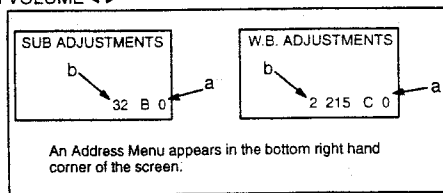

Figure 17. Serviceman Mode Menu Adjustments
**Note:** Only the applicable settings for the Receiver serviced will be available (see a in Figure 17).
1. Press **Channel Up/Down** on the Remote Control to select one of the 8 available Service Adjustments (a in Figure 17).
**Important Note:** Write down the original value set (b in Figure 17) for each address before modifying anything. It is easy to erroneously adjust the wrong item.
2. Press **Volume Up/Down** on the Remote Control to adjust the level of the selected Service Adjustment (b in Figure 17).
1. Press **Channel Up/Down** on the Remote Control to select one of the 12 available Service Adjustments (a in Figure 17).
**Important Note:** Write down the original value set (b in Figure 17) for each address adjustment before modifying anything. It is easy to erroneously adjust the wrong item.
1. Press **Channel Up/Down** on the Remote Control to select one of the 12 available Options Adjustments (a in Figure 17).
1. Press **Channel Up/Down** on the Remote Control to select one of the 5 available MTS Adjustments (a in Figure 17).
- Important Note:** Write down the original value set (b in Figure 17) for each address before modifying anything. It is easy to erroneously adjust the wrong item.